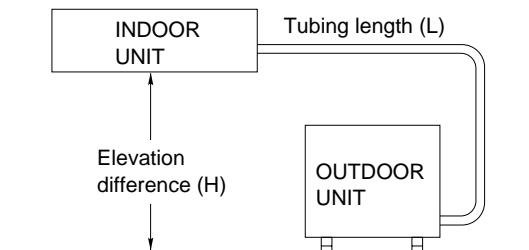

Fig. 3a
- install the unit within the maximum elevation difference (H) above the outdoor unit and within a total tubing length (L) from the outdoor unit as detailed in Table 1 and Fig. 3a.